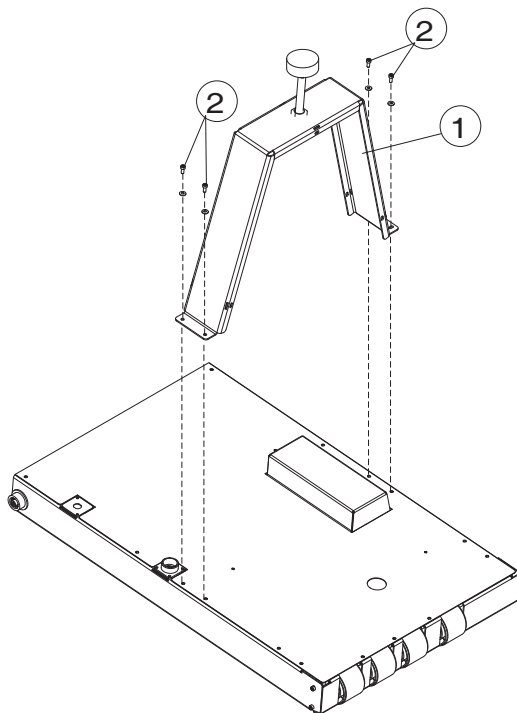

Fig.1
- Install the foot (1) on the conveyor with the screws (2) and washers (Fig.1).